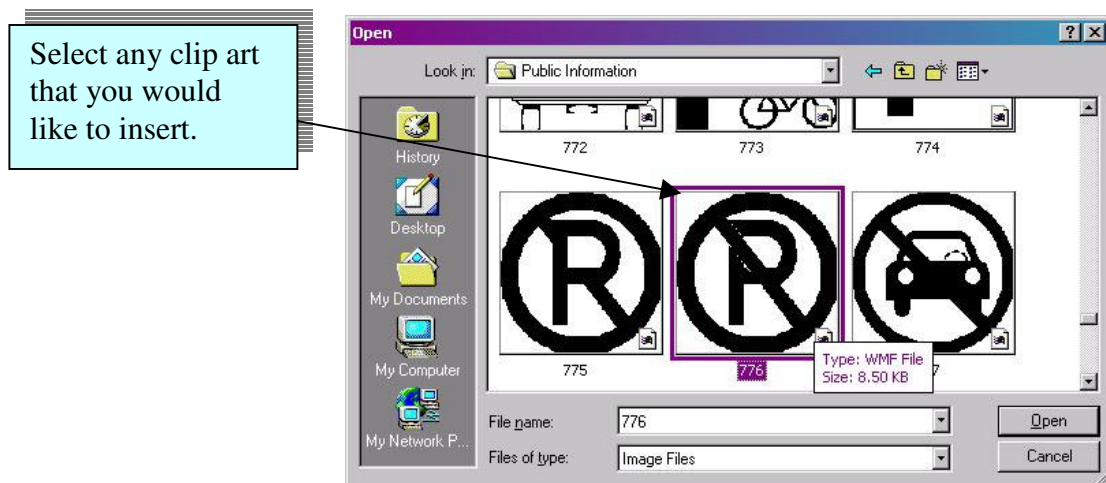

Figure 3.6.1.13: Select a clip art to insert
6. Click the open  button to insert the image onto the label (see Figure 3.6.1.14).